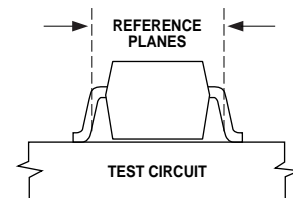

Figure 14. Phase Reference Planes.
**Note 1:** Reference plane per Figure 14 in Applications Information section.
The positions of the reference planes used to measure S-Parameters for this device are shown in Figure 14. As seen in the illustration, the reference planes are located at the point where the package leads contact the test circuit.